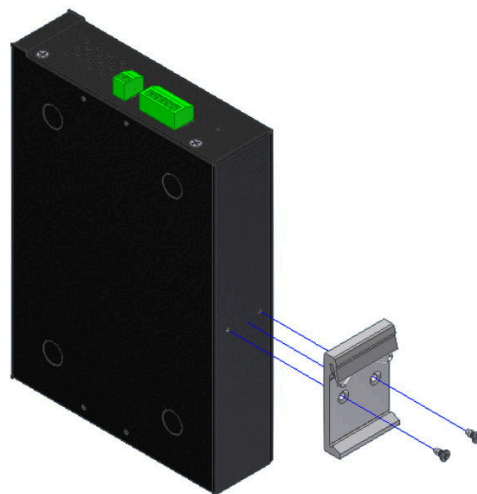

Figure 2.5.2
1. Install the DIN-Rail mounting plate to the NV-520G. (Figure 2.5.2)